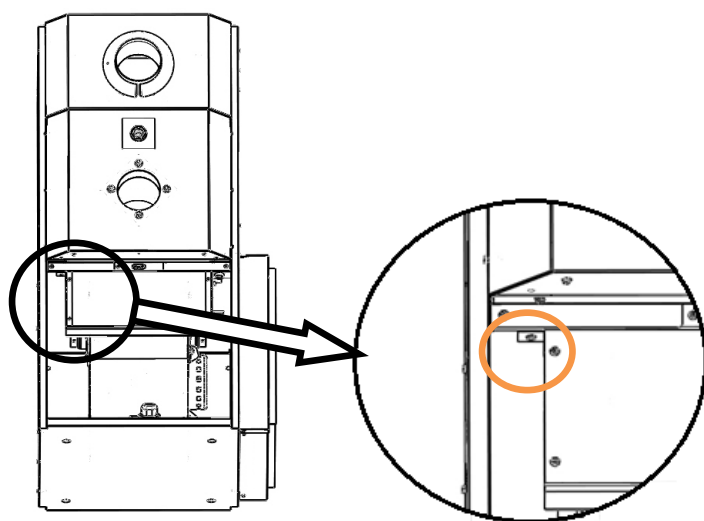

Figure 3
5) Remove the screw securing the blower side to the separating panel (Figure 3).